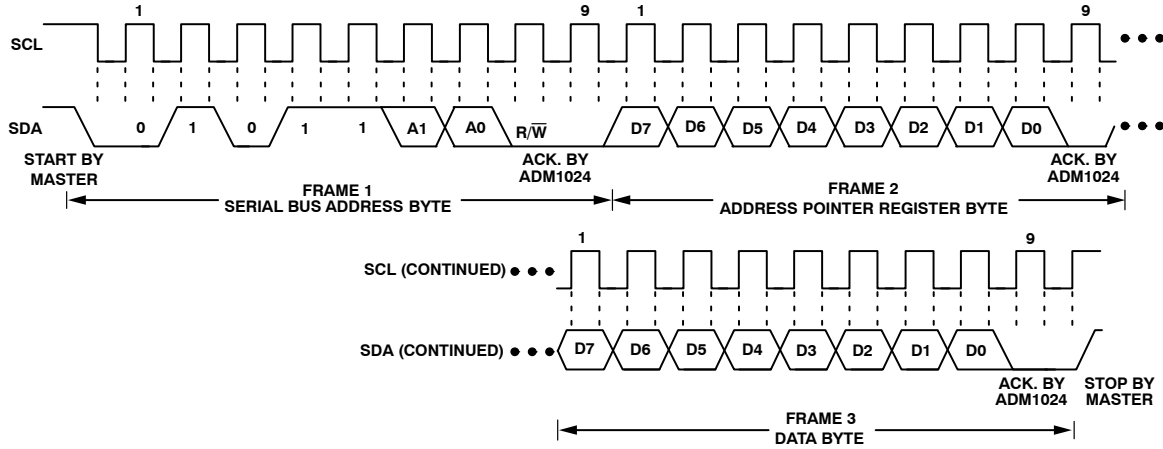
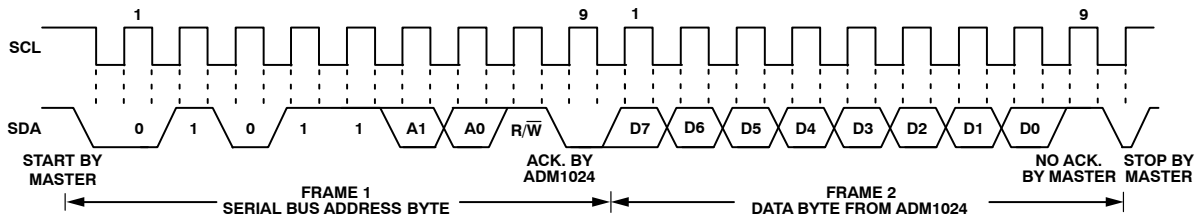

Figure 10. Writing a Register Address to the Address Pointer Register, then Writing Data to the Selected Register
Figure 12. Reading Data from a Previously Selected Register
To write data to one of the device data registers or read data from it, the Address Pointer Register must be set so that the correct data register is addressed, then data can be written into that register or read from it. The first byte of a write operation always contains an address that is stored in the Address Pointer Register. If data is to be written to the device, the write operation contains a second data byte that is written to the register selected by the Address Pointer Register. This is illustrated in Figure 10 The device address is sent over the bus followed by R/\overline{W} set to 0. This is followed by two data bytes. The first data byte is the address of the internal data register to be written to, which is stored in the Address Pointer Register. The second data byte is the data to be written to the internal data register.
the serial bus address, R/W bit set to 1, followed by the data byte read from the data register. This is shown in Figure 12.
2. In Figure 10 to Figure 12, the serial bus address is shown as the default value 01011(A1)(A0), where A1 and A0 are set by the three-state ADD pin.